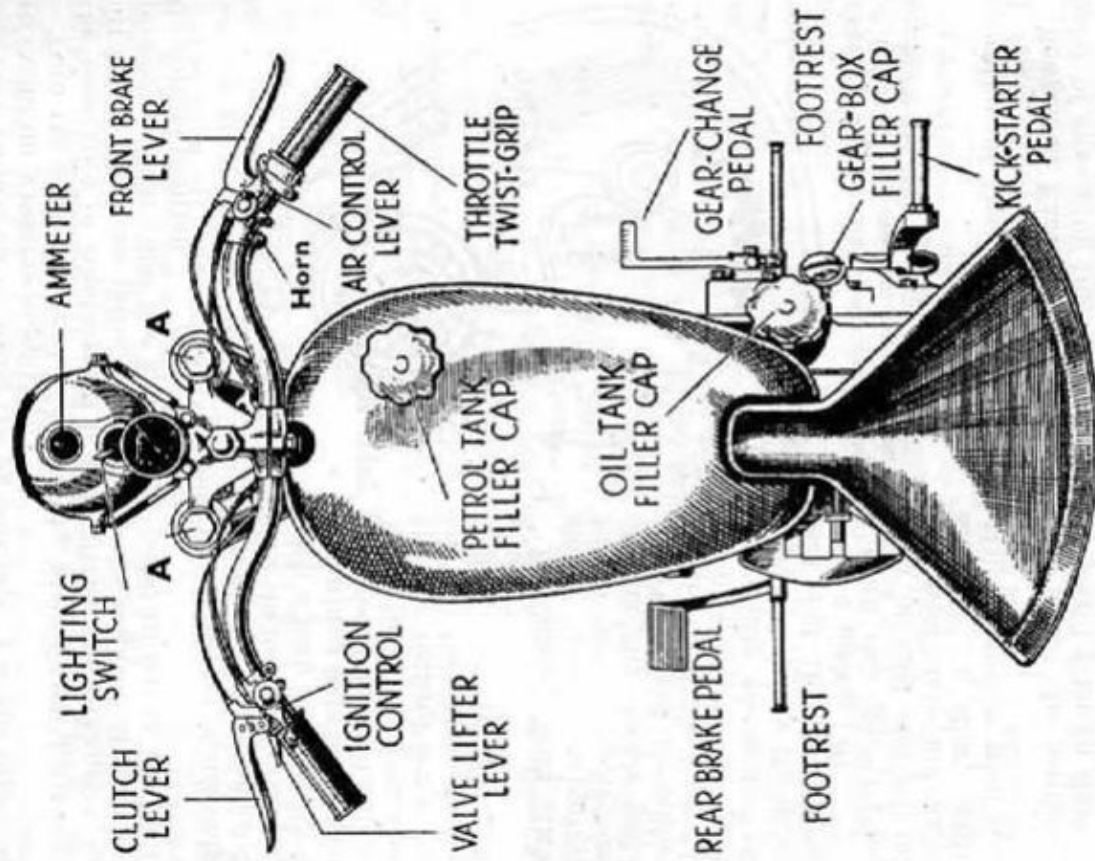
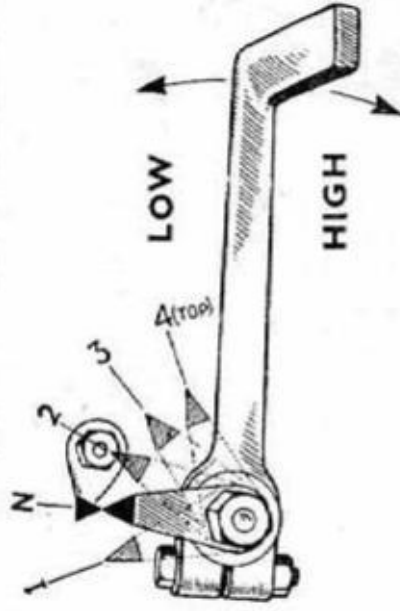

FIG. 2. THE NEAT CONTROL LAY-OUT ON THE "CLUBMAN" MATCHLESS
FIG. 4. THE FIVE POSITIONS OF THE FOOT GEAR-CHANGE INDICATOR
The Matchless Controls. If you have never before handled a "Clubman" Matchless, you should, before attempting to start up or get on the road, familiarize yourself with the control lay-out shown in Fig. 2. Note that all handlebar controls are operated by *inward* movement.
Setting the Controls. First verify that replenishment has been attended to. The filler caps and controls are shown in Fig. 2, and oil tank and gearbox replenishment are dealt with on pages 29 and 35 respectively. Check that the gear-change pedal *is* in neutral (see Fig. 4). Then set the carburettor and ignition controls.
To Engage First Gear. Ease the Matchless off its rear stand, with the engine running and the gear-change lever pedal in neutral, sit astride the machine, and disengage the clutch by operating the handlebar lever (see Fig. 2). Raise the foot gear-change pedal fully with the instep of the foot and engage first (bottom) gear (see Fig. 4). Slight backward or forward movement of the machine often facilitates engagement. As soon as first gear is *felt* to engage, remove the instep from the pedal.
Changing Up (First to Second). As soon as your Matchless has reached a speed of about twelve m.p.h. in first gear, change up into second gear. Once again disengage the clutch, slightly close the throttle, pause a second, and then *depress* the gear-change pedal to its *full extent* with the toe, until second gear is *felt* to engage (see Fig. 4). Then engage the clutch and also remove the toe from the pedal to allow the pedal to return to its normal position.
Changing Up (to Third and Fourth). Progressively increase the throttle opening until about twenty m.p.h. is obtained. Now disengage the clutch, throttle down slightly, pause a second, and then smartly, but without force, *depress* the gear-change pedal fully until third gear is *felt* to engage (see Fig. 4). Engage the
Changing Down (to Second and First). The required procedure is similar to that just described for changing down from fourth to third gear. With the instep of the foot *raise* the gear-change pedal to its *full extent* during each gear change. Each full movement of the pedal engages the *next* gear in the gear change sequence as shown by the indicator in Fig. 4.
(4) Raise the gear-change pedal until "neutral" (see Fig. 4) is engaged. It may be necessary to operate the pedal several times in quick succession (see page 6).
(5) Engage the clutch by releasing the lever.